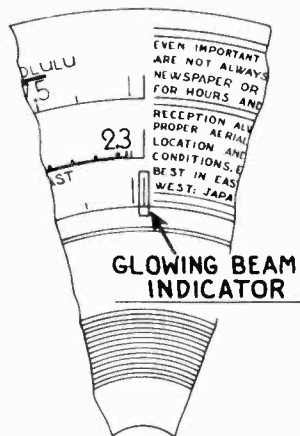

Fig. 2—Dial Calibration
**DIAL CALIBRATION**—In order to adjust this receiver correctly, the dial must be aligned to track properly with the tuning condenser. To do this, rotate the tuning condenser control to the extreme counter-clockwise position (maximum capacity). Loosen the screw of dial hub, then turn dial until the glowing indicator is centered on the first index line of dial scale (see Fig. 2). Now tighten the dial hub set screw in this position.